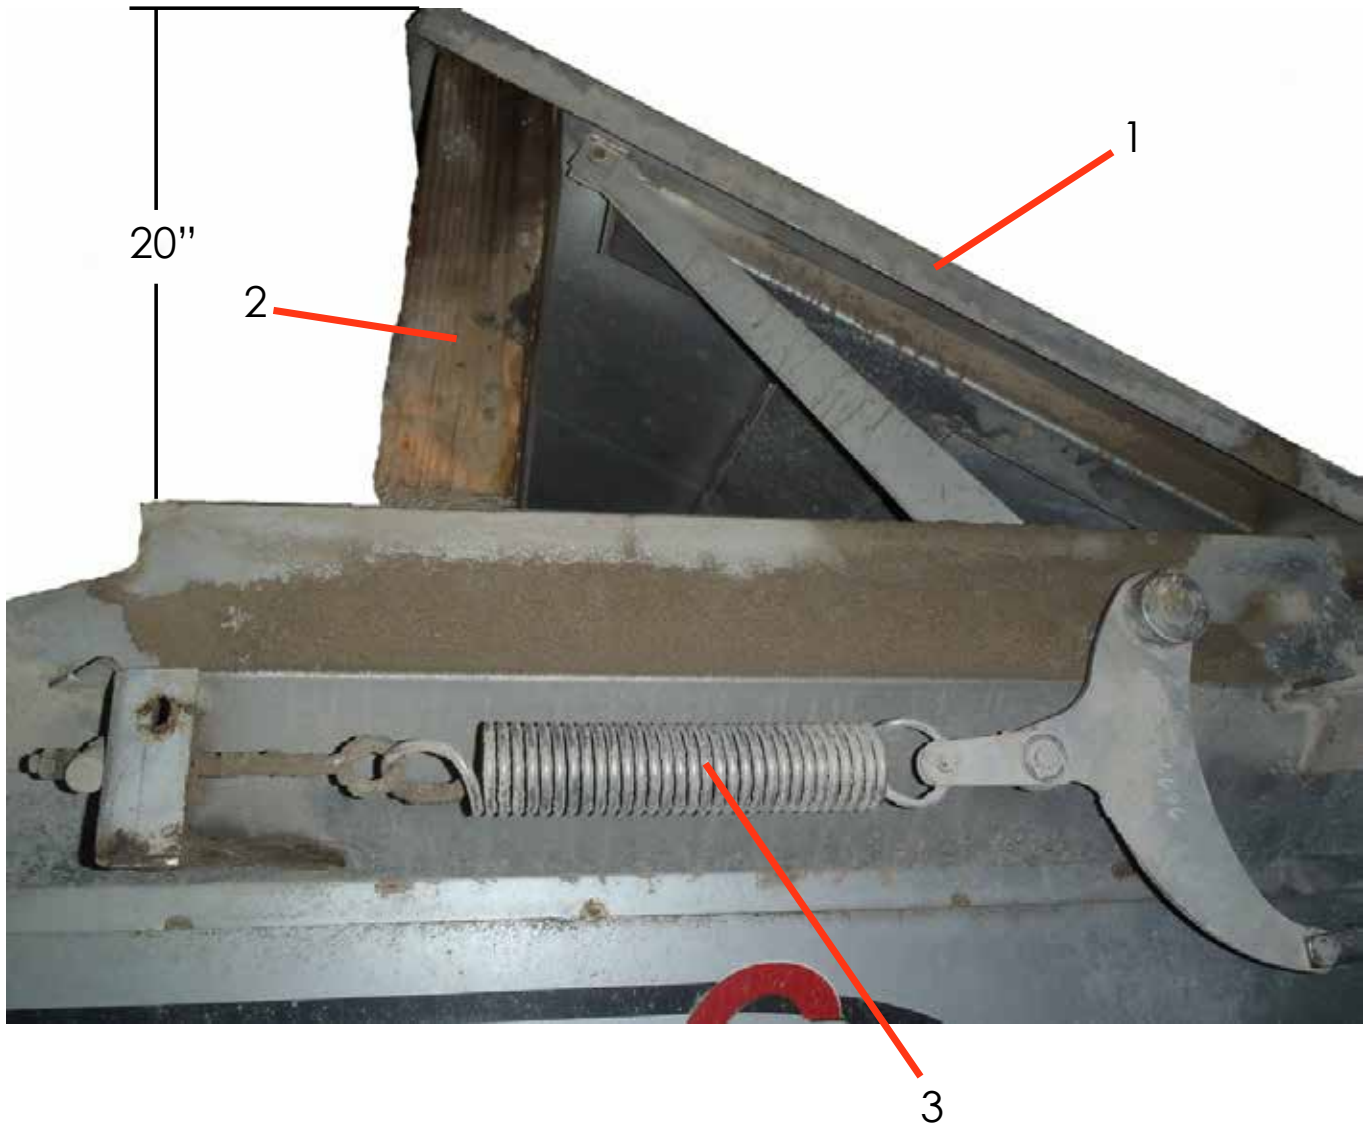

Figure 9
9. Figure 9 - By Hand, open lid (1) to 20" and insert block (2). Assist spring (3) will be left at its shortest position.